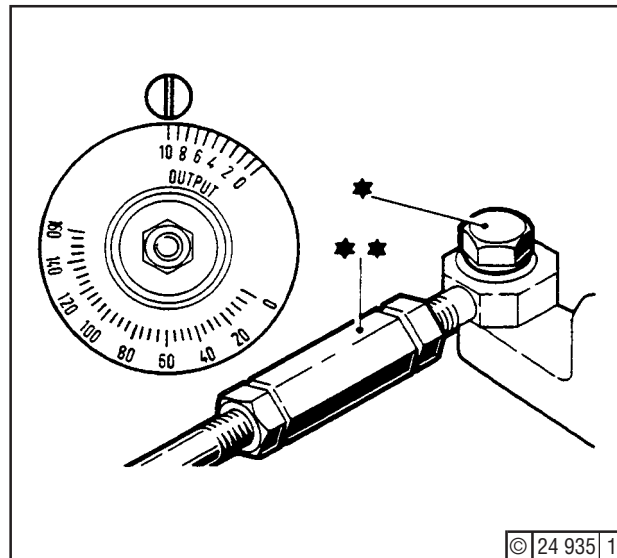

Fig. 13
10. Turn governor to graduation (10) - Fig. 13 - and secure link C1 to point A5 (*). Adjust length of link at point C5 (**). To ensure freedom from internal stressing. Remove tool from all injection pumps (see Fig. 7).